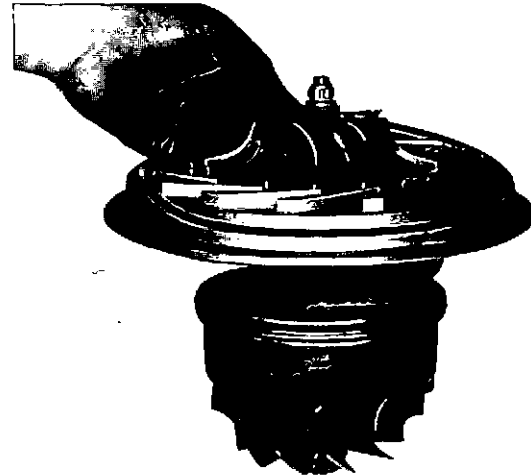

Fig. 5-36, (TA38). Installing the O-ring on the back plate
12. Position a new O-ring in the groove of the back plate (if applicable), Fig. 5-36.